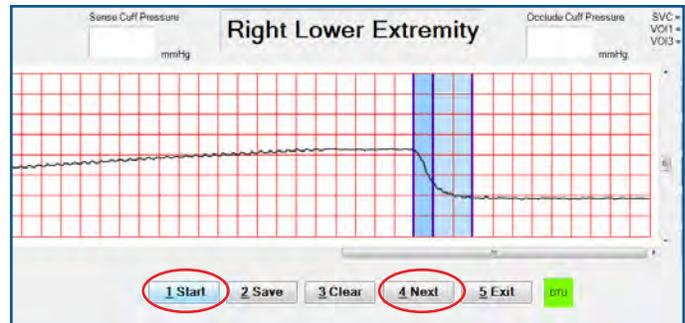

FIGURE 2.12 - “Save” and “Next” Buttons
14. Click the “Save” button to save the test (Figure 2.12).
15. Click the “Next” button to continue testing the left side (Figure 2.12).